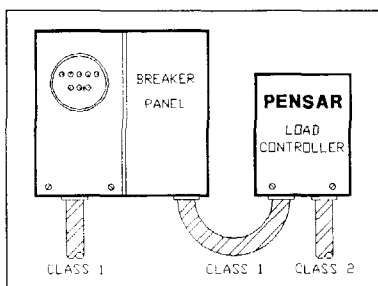

Figure 1 Mounting Enclosure
- 1) Locate a suitable position adjacent to the main breaker enclosure (see figure 1). Plan conduit runs with regard to segregation of class 1 and class 2 circuits. Insure the lead length of the current transformers is sufficient.